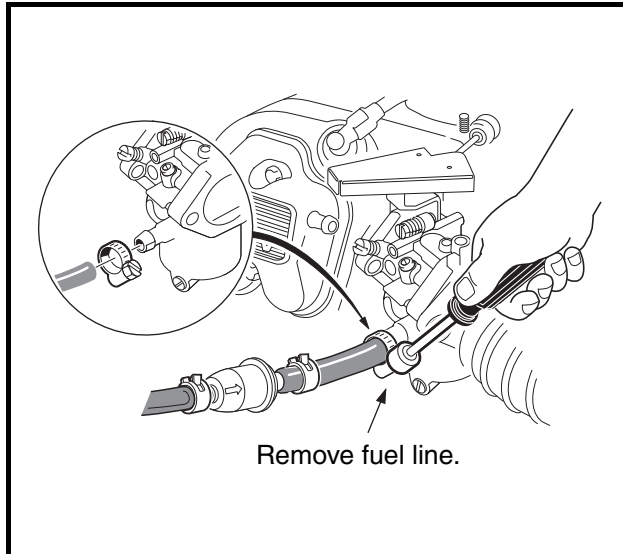

Figure 16-14 Fuel Line
- 4.4. Disconnect the fuel line from the carburetor (Figure 16-14, Page 16-9). Temporarily push the disconnected end of the line onto the impulse line fitting of the fuel pump.